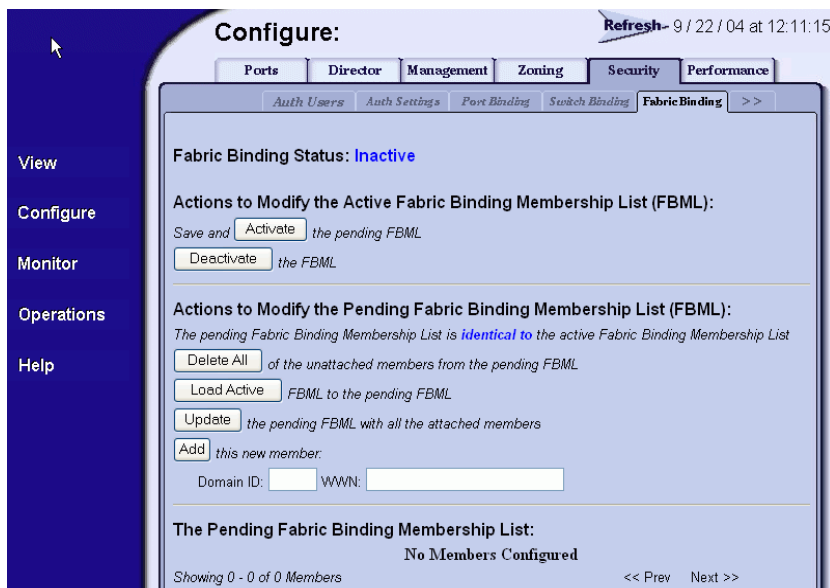

Figure 2-78 Configure Panel (Security Page with Fabric Binding Tab)
1. At the *Configure* panel, click the *Fabric Binding* tab. The *Security* page displays with the *Fabric Binding* tab selected (Figure 2-78).